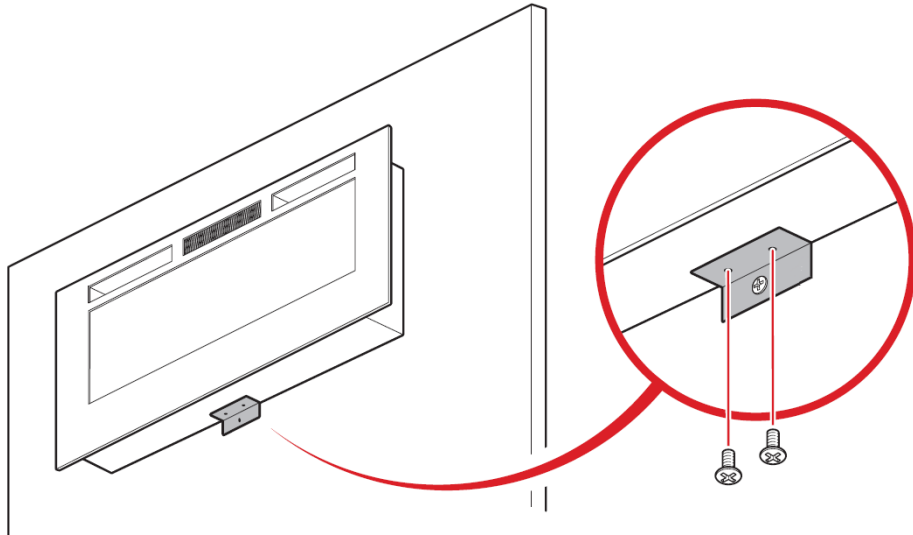

Fig.8
- Attach the bottom bracket to the heater with two 4\*30mm screws Fig.8